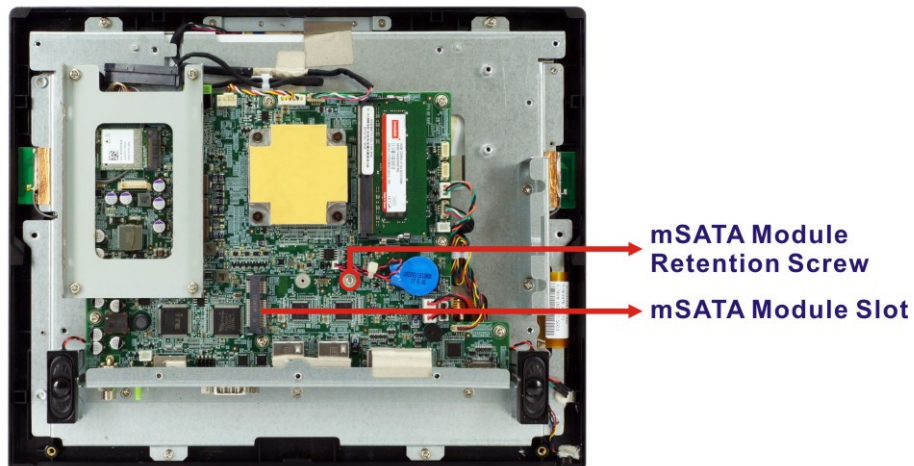

Figure 3-3: mSATA Module Slot Location
Step 2: Locate the mSATA module slot. Remove the preinstalled retention screw on the screw pillar as shown in **Figure 3-3**.